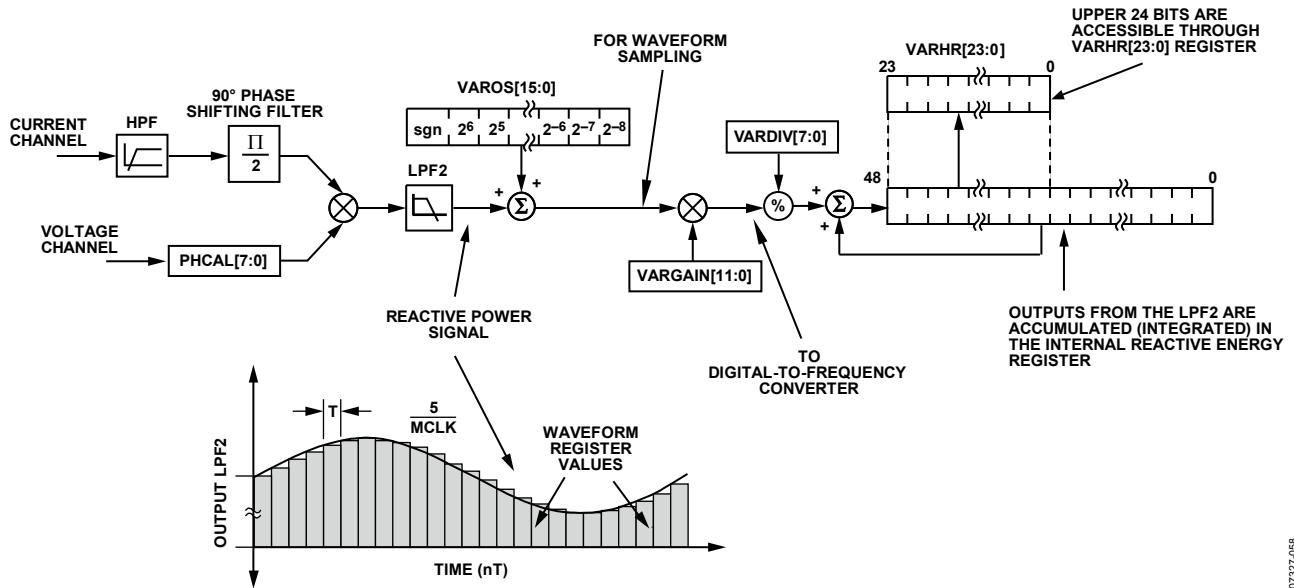

Figure 58. Reactive Energy Calculation
The instantaneous reactive power signal $q(t)$ is generated by multiplying the voltage and current channels. In this case, the phase of the current channel is shifted by 90° . The dc component of the instantaneous reactive power signal is then extracted by a low-pass filter to obtain the reactive power information (see Figure 58).
Figure 58 shows the signal processing chain for the ADE7518 reactive power calculation. As explained in the Reactive Power Calculation section, the reactive power is calculated by applying a low-pass filter to the instantaneous reactive power signal. Note that, when reading the waveform samples from the output of LPF2, the gain of the reactive energy can be adjusted by using the multiplier and by writing a twos complement, 12-bit word to the VAR gain register (VARGAIN[11:0]). Equation 23 shows how the gain adjustment is related to the contents of the watt gain register.
The ADE7518 also incorporates a reactive power offset register (VAROS[15:0]). This is a signed, twos complement, 16-bit register that can be used to remove offsets in the reactive power calculation (see Figure 58). An offset may exist in the reactive power calculation due to crosstalk between channels on the PCB or in the IC itself. The offset calibration allows the contents of the reactive power register to be maintained at 0 when no power is being consumed.
The discrete time sample period (T) for the accumulation register in the ADE7518 is 1.22 μs (5/MCLK). As well as calculating the energy, this integration removes any sinusoidal components that may be in the active power signal. Figure 58 shows this discrete time integration or accumulation. The reactive power signal in the waveform register is continuously added to the internal reactive energy register.
As shown in Figure 58, the reactive power signal is accumulated in an internal 49-bit signed register. The reactive power signal can be read from the waveform register by setting the WAVMODE register (0x0D) and setting the WFSM bit in the Interrupt Enable 3 SFR (MIRQENH, 0xDB). Like the current and voltage channel waveform sampling modes, the waveform data is available at a sample rate of 25.6 kSPS, 12.8 kSPS, 6.4 kSPS, or 3.2 kSPS.